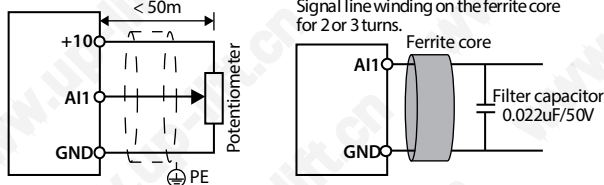
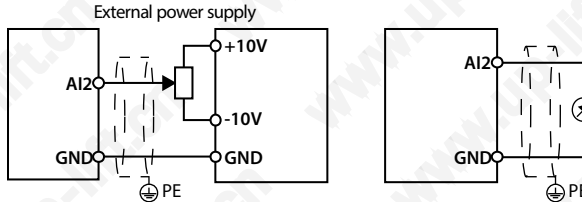

Figure 4-7 AI1 connection
Figure 4-8 AI2 connection
The AI1 is voltage input and the range is 0 - 10V, as shown in Figure 4-7.
2. In serious interference occasions, the analogue input signal should add filter capacitor and ferrite core, as shown in Figure 4-7.
AI2 are selected as voltage input and the range is -10 ~ +10V. When selecting internal +10V of HD30, refer to Figure 4-7; selecting +/-10V external supply, refer to Figure 4-8.
AI2 are selected as current input and the range is 0 ~ 20mA, refer to Figure 4-8.